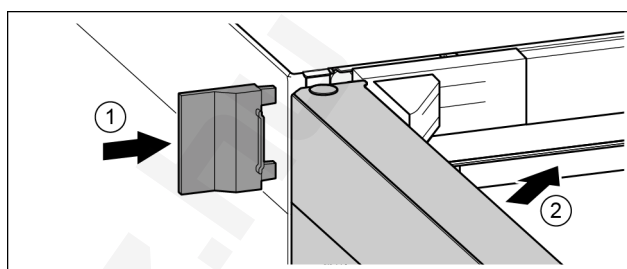

Fig. 42
- Slide on the external cover. Fig. 42 (1)
- Close the upper door. Fig. 42 (2)